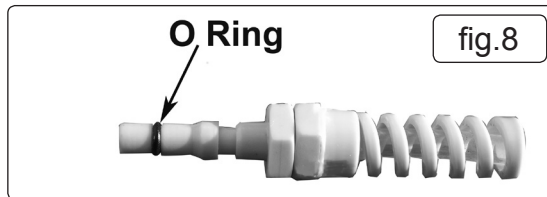

fig.8
- 10.1.6. Check the O Ring (fig.8) on the mail hose connector (Item 33) for wear.